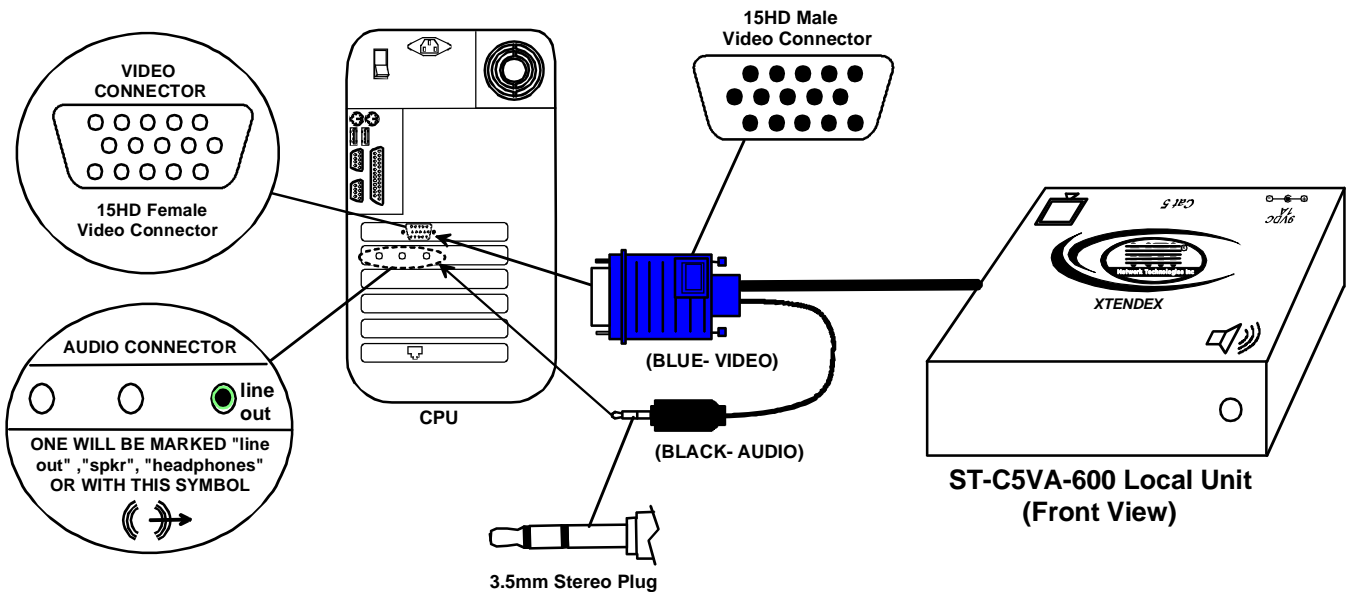

Figure 1- Connect the Local Unit to the CPU
1. Plug the cables of the Local Unit into the back of the CPU. (See Fig. 1.)